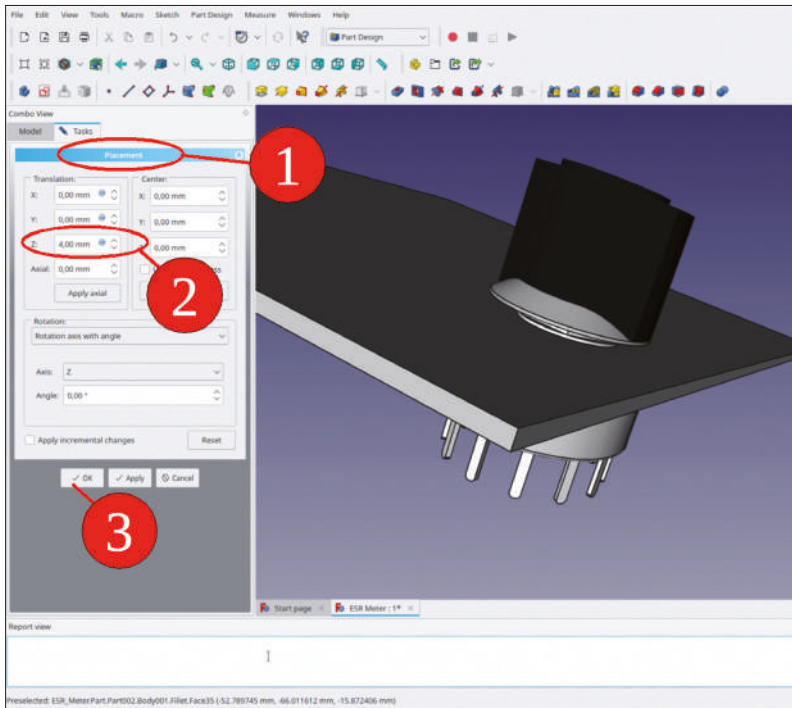

Figure 7-16
3. The knob still scratches on the front panel. In order to give it some Z offset, in the tree view, mark the Std-Part-Container 'Knob Recycling Complete', and edit its placement in the property list. Either expand the list entries until you can access the Z position ('Placement | Position | Z') or open a task window by clicking into the 'Placement' edit field, and then on the ... button to the right. Set the Z translation to 4 mm (Figure 7-16).